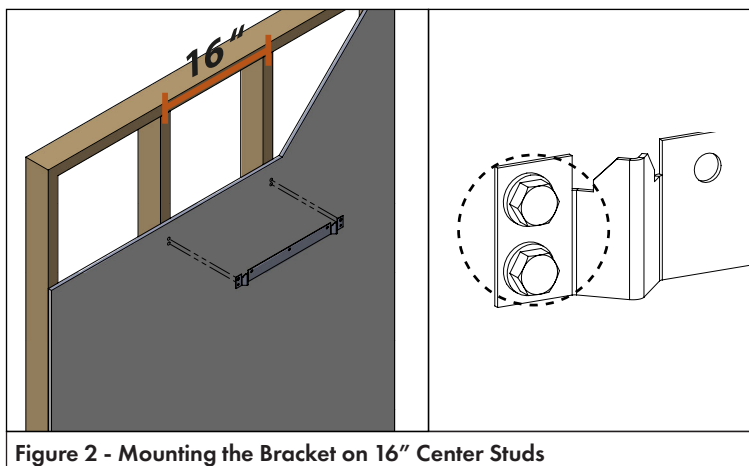

Figure 2 - Mounting the Bracket on 16" Center Studs
1. Position the upper wall mounting bracket on the wall. Ensure the bracket is level and the drilling holes are on stud. Then use the bracket as a template to mark four (4) drilling holes on the wall - two (2) on each side of the bracket. See Figure 2 for details.